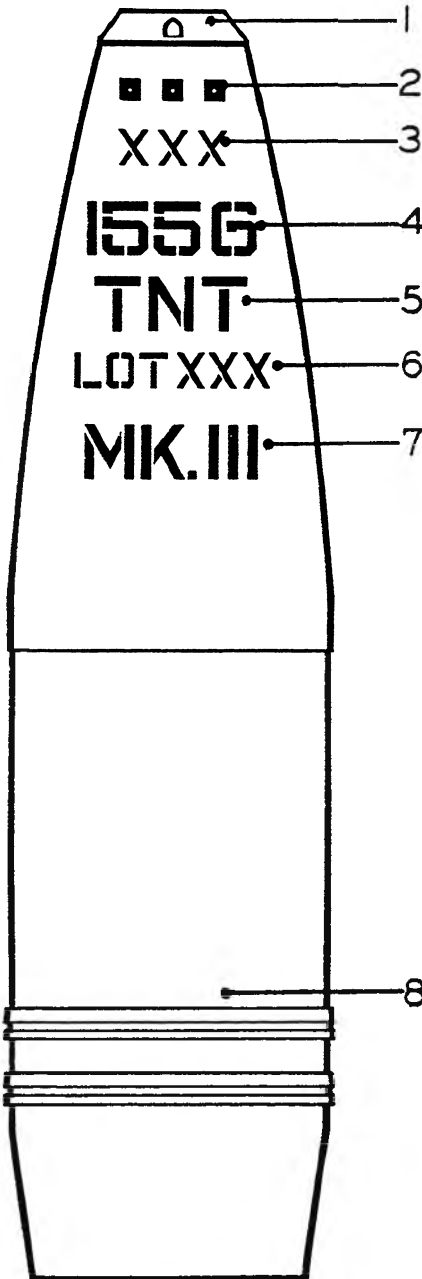

FIG. 5.—Marking for 155-mm. high-explosive shell for gun
(3) The explosive charge is about 15.2 pounds of T. N. T. Some shell are loaded with 50-50 and 80-20 amatol. 80-20 amatol-loaded shell which contain a smoke composition have been withdrawn from service since it has been found that in loading the explosive the smoke producer sometimes became displaced, leaving cavities which are believed to have been the cause of a number of prematures. Shell containing 80-20 amatol with the smoke composition may be distinguished from those containing 80-20 amatol without the smoke composition by a green band which is painted around the shell just beneath the stenciling, to denote the presence of smoke composition. No 80-20 amatol-loaded shell containing smoke composition should be fired, and should any be discovered in storage, they should be reported to the proper authority for disposition.
(4) The Mk. III high-explosive shell is marked for identification, as shown in Figure 5.